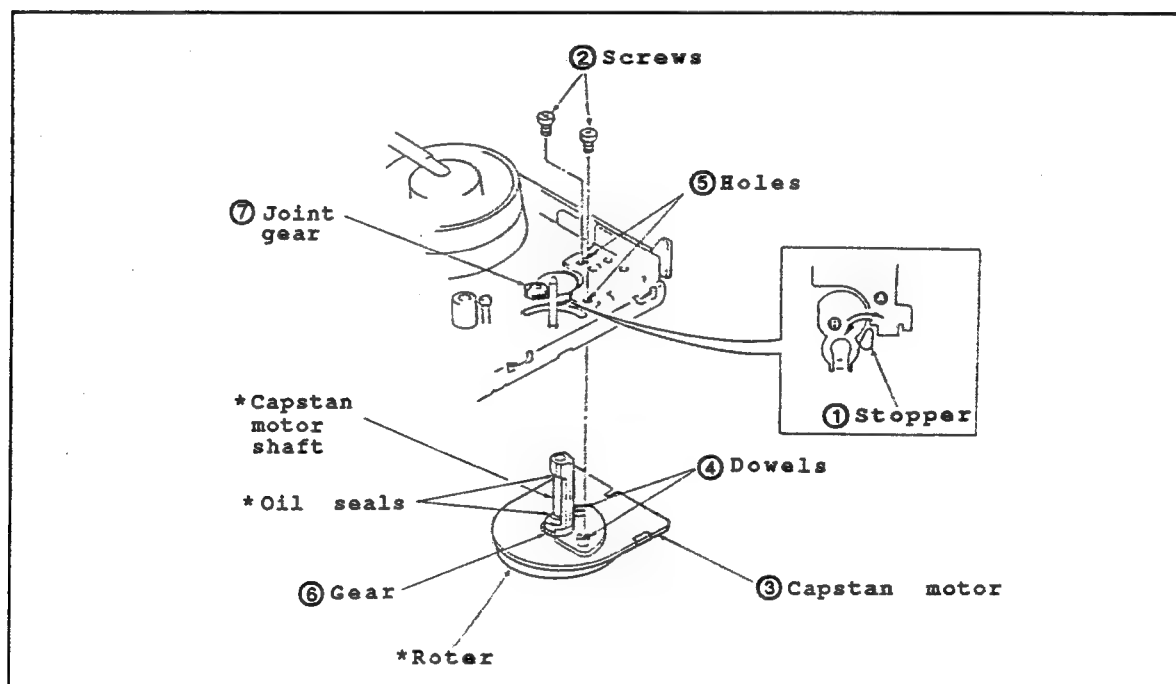

Fig.II-9
- Disassembling (Fig.II-9)
- (1) Set the unloading state.
- (2) Rotate the stopper ① in direction ④ until it comes to an end.
- (3) To take out the capstan motor ③, remove the two set screws ②.
- Reassembling (Fig.II-9)
- (1) Align the two dowels ④ with the two holes ⑤ to match the gear section ⑥ with the connecting gear ⑦.
- (2) Secure the capstan motor ③ with the two set screws ②.
- (3) Rotate the stopper ① in direction of ⑧ until it comes to an end.
- \*Notes: 1. Do not match the gear section ⑥ and the connecting gear ⑦ forcibly to prevent the cam grooves damaging.